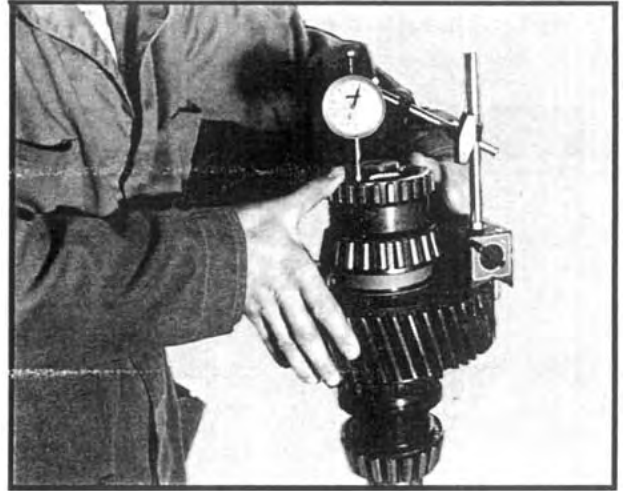

Fig 44
5. Install a dial indicator as depicted in Figure 44. Lift upward on the gear assembly and note the gear end float on the dial indicator. If the end float is not within specification (.003 to .008 in.) it will be necessary to disassemble the shaft by performing Steps 7 and 8 under "REAR OUTPUT SHAFT DISASSEMBLY – MODELS WITH NEUTRAL". Measure the thickness of the original spacer ring and select a new ring to provide end float within specification. See item 11 on P.12 in the parts manual for a list of available spacer rings. Be sure to recheck the gear end float after a new spacer ring is installed.